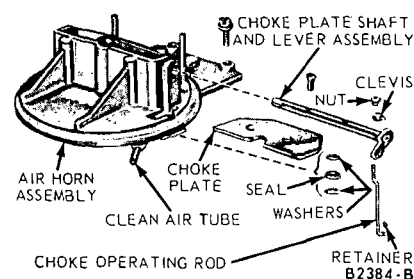

FIG. 9—Air Horn Assembly
3. Remove the air horn retaining screws, lock washers and the carburetor identification tag. Remove the air horn and air horn gasket (Fig. 9).